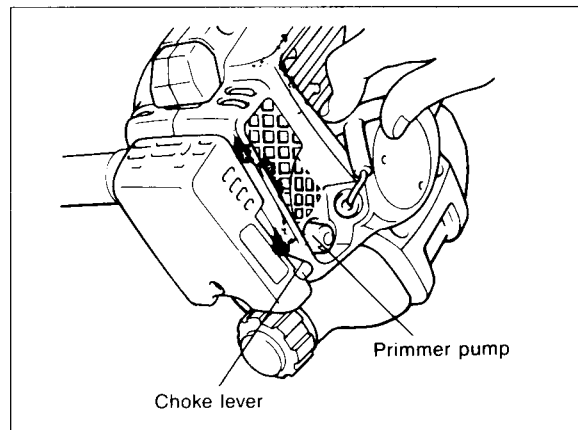

Fig. 18
- 2) Give a gentle push on the primer pump repeatedly (7 — 10 times) until fuel comes into the primer pump. (Fig. 18)
- 3) Close the choke lever fully by moving it to the  position. (Fig. 18)
- 3) Open the choke lever fully by moving it to the |◆| position. (Fig. 18)